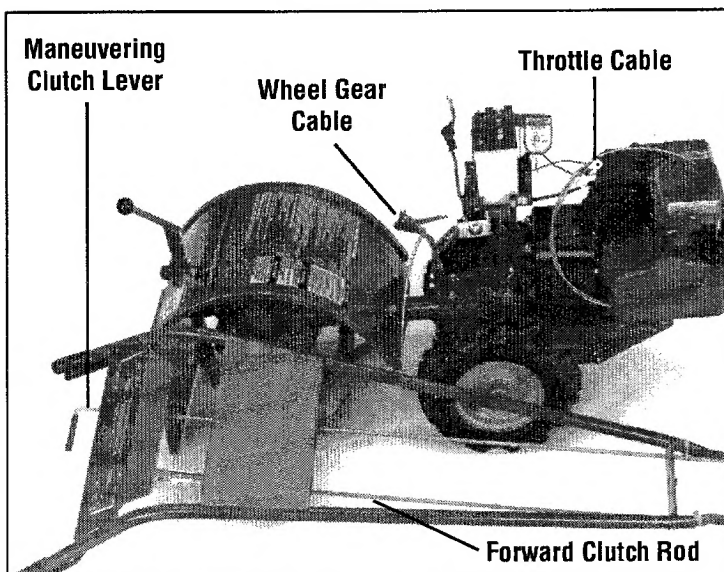

Figure 2-1: Pony electric start model shown.
2. Do not uncoil any cables or remove the handlebars or control levers until instructed to do so. The partially assembled unit is shown in Figure 2-1.